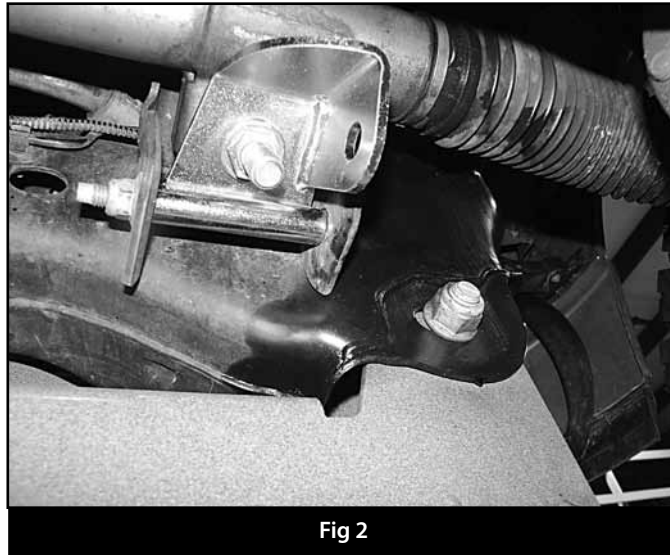

Fig 2
4. Install bushings and cup washers on end of stabilizer. Attach stabilizer to passenger's side rack and pinion mount, included with suspension lift kit and tie rod mount. (Fig 2)
8. Install bushings and cup washers on driver's side stabilizer, following same procedure as passenger's side. (Fig 2)